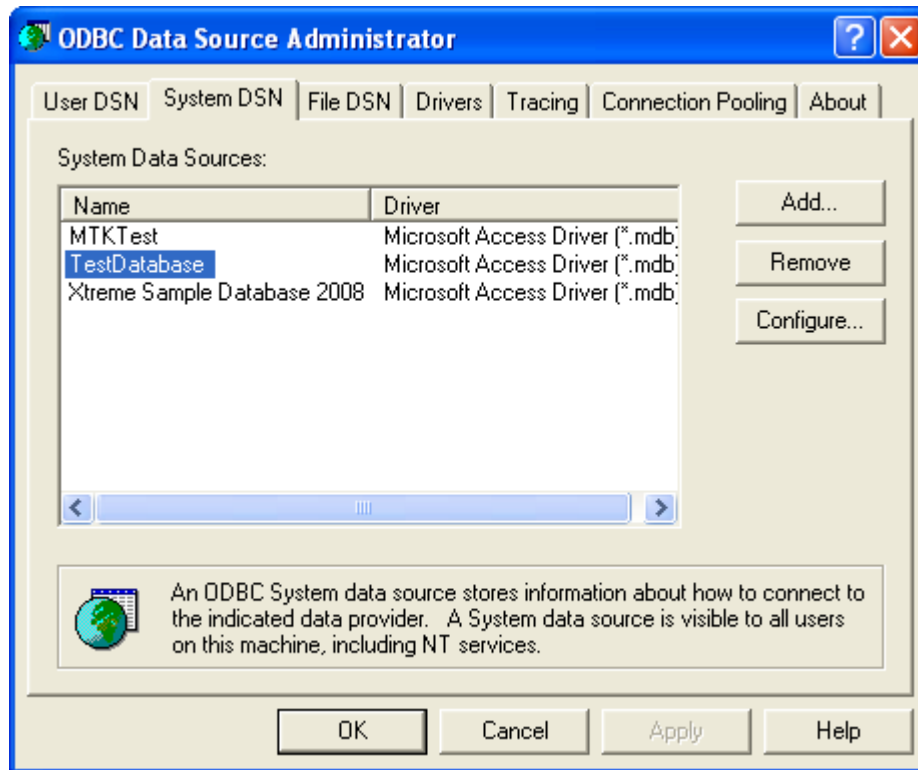

Figure 99 - List of System DSNs
16. **TestDatabase** should now appear in the list of system DSNs (Figure 99) that you see in the **ODBC Data Source Administrator** window.